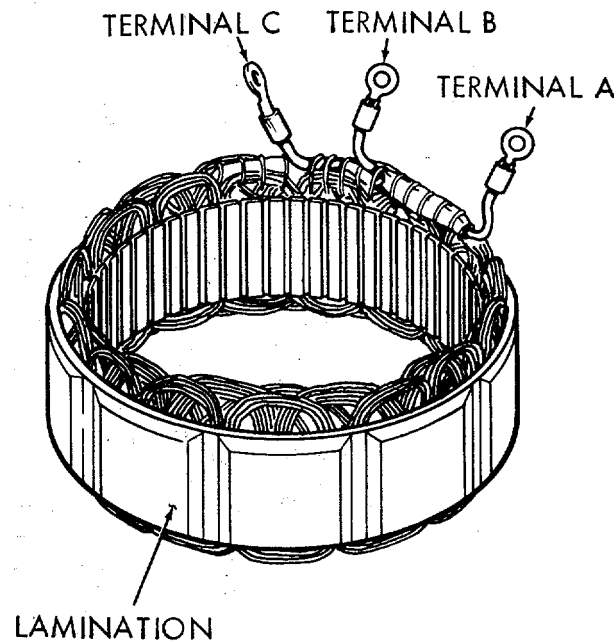

Figure 4-6. Alternator stator testing (hulls 8540-8560 and 8580-8618).
(1) Using ohmmeter, check stator terminals A, B, and C (fig. 4-6) for continuity. Continuity should exist between terminals A and B, B and C, and A and C. Check for no continuity between the stator terminals and the stator laminations. Replace stator if correct indications are not received.